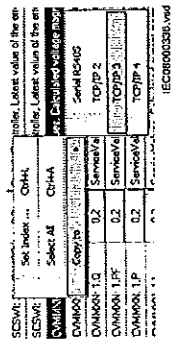

Figure 81: CMT: Context menu in DNP3 window
- Click the two inner arrows to sort signals to another index sequence, or select *Set Index...* from the context menu to move one or a set of signals to another array, see Figure 81.